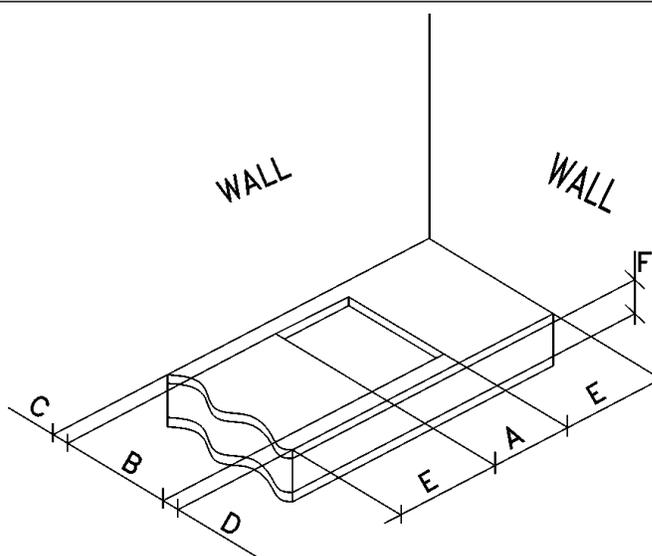

FIG. 7
The measurements of the opening made in the top of the modular cabinet and into which the hot plate will be installed are indicated in either fig. 7. Always comply with the measurements given for the hole into which the appliance will be recessed (see fig. 7 and 8).
- The gas hob should be installed with a minimum safety distance of 150mm from the border of the gas hob to the side walls and 57.5mm from the border to the front wall and the back wall. Any possible wall unit over the cook-top must be placed at a distance of at least 760mm from the top (fig. 7 and 8).
- The safety distance between the bottom of the gas hob and other appliances should be at least 70mm (fig. 7).